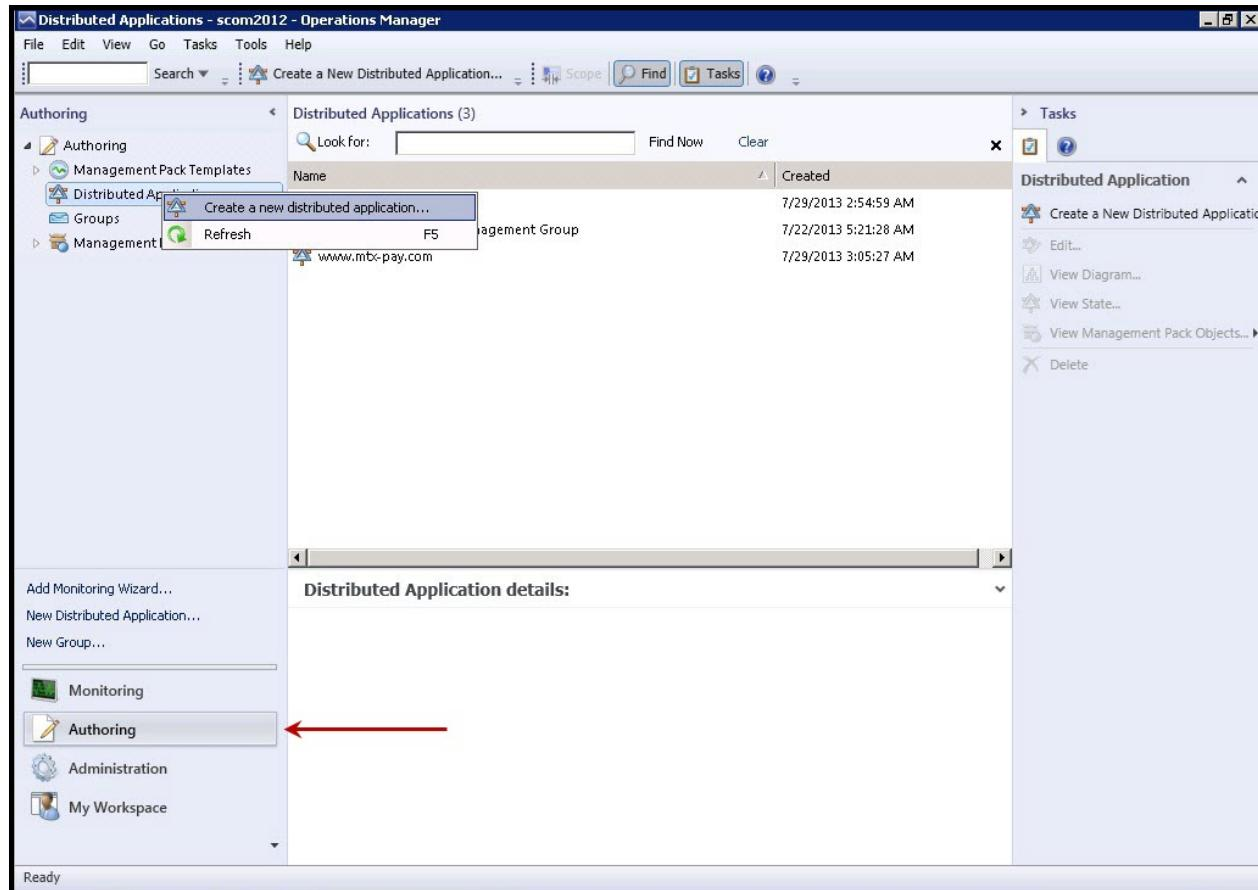

Figure 4.25: Starting Distributed Application Configuration
1. A business service in eG has to be defined as a ‘Distributed Application’ in SCOM. In other words, the *Infomart* service in our example, will have to be configured as the *Infomart* distributed application in SCOM. This implies that the topology that you built for the *Infomart* service in eG should be built again in SCOM for the *Infomart* distributed application. For this, first, login to the SCOM console. Then, click the **Authoring** tab page depicted by Figure 4.25 below.
2. When the **Authoring** tree appears in the left panel, expand the **Authoring** node in the tree-structure, right-click on the **Distributed Application** sub-node, and pick the **Create a new distributed application** option (see Figure 4.25).